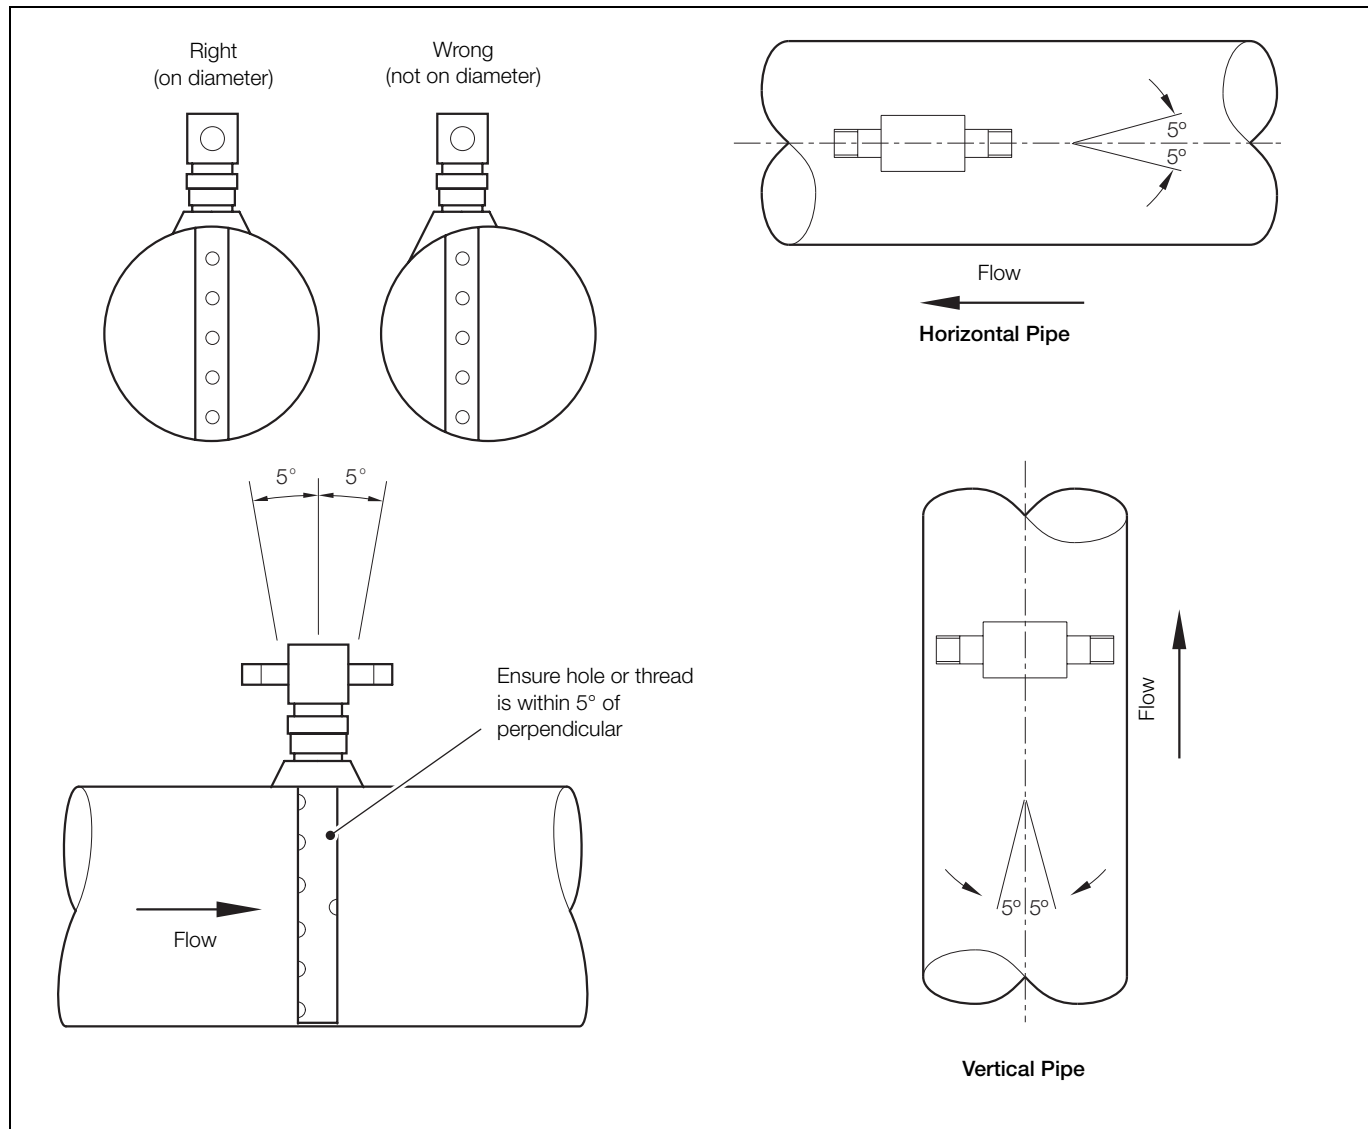

Fig. 2.2 TORBAR Alignment
4. Using a suitably sized and threaded length of pipe, check the threaded fitting is concentric and aligned correctly – see Fig. 2.2 on page 4.